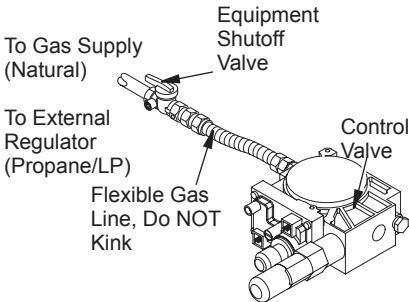

Figure 25 - Connecting/Disconnecting Gas Line to Millivolt Valve
1. Using a 5/16" hex socket wrench or nut-driver, connect or disconnect flexible gas line and control valve (see Figure 25).